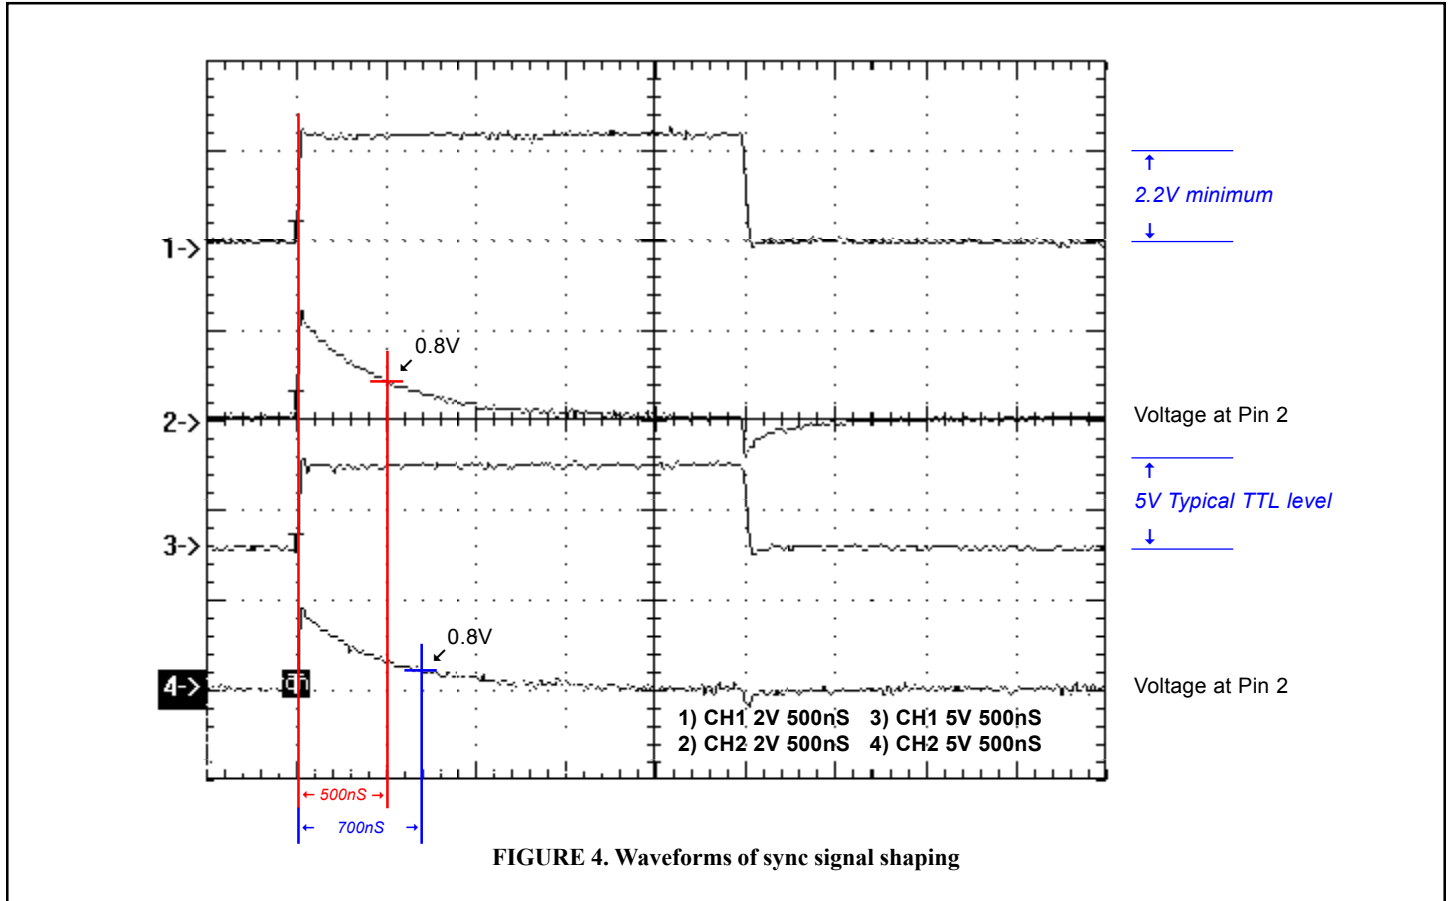
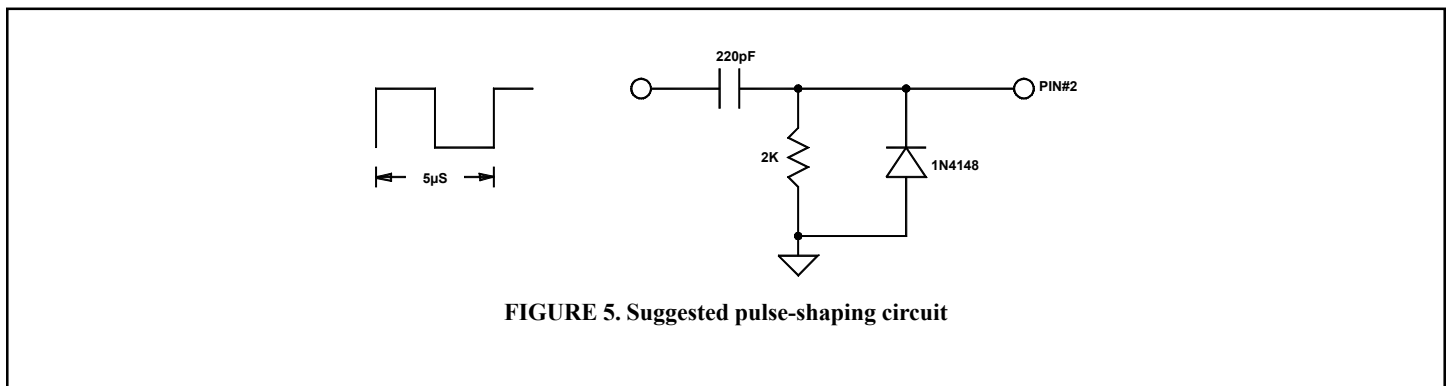

FIGURE 4. Waveforms of sync signal shaping
FIGURE 5. Suggested pulse-shaping circuit
Derating	See Figure 4
- ⁷ For 12V_{IN} and 24V_{IN} models, derate the converter above 50°C ambient (see Figure 4).
and its frequency between 150kHz and 180kHz. NOTE: Higher frequencies will reduce the efficiency of the converter and wide TTL pulses will force the PWM to follow the external TTL width modulation, which may effect regulation. A high TTL signal at the SYNC pin of the converter will turn the converter off. An internal pull-down resistor will keep this pin low when it is not used. A pulse differentiator (see Figure 5) can be used to shape a square wave sync signal as shown in Figure 4.
As described in External Synchronization, the PWM of the 35W converter requires a TTL signal of 0.8 to 2Vdc minimum amplitude and minimum duration of 300nS. When such a signal is not available (through one shot multivibrator or other pulse-shaping circuits) a C-R differentiator, such as the one in Figure 5, can be used to shape a square wave TTL signal. As is shown by the
oscilloscope in Figure 4, the positive edge of the sync pulse must be 2V minimum and the decaying exponential must reach the low 0.8Vdc in 300nS minimum from the positive edge. The parallel diode with the resistor is a small signal switching diode or a Schottky signal diode with 0.3 to 0.5V forward drop, it is used to clamp the voltage at pin 2@-0.5Vdc.